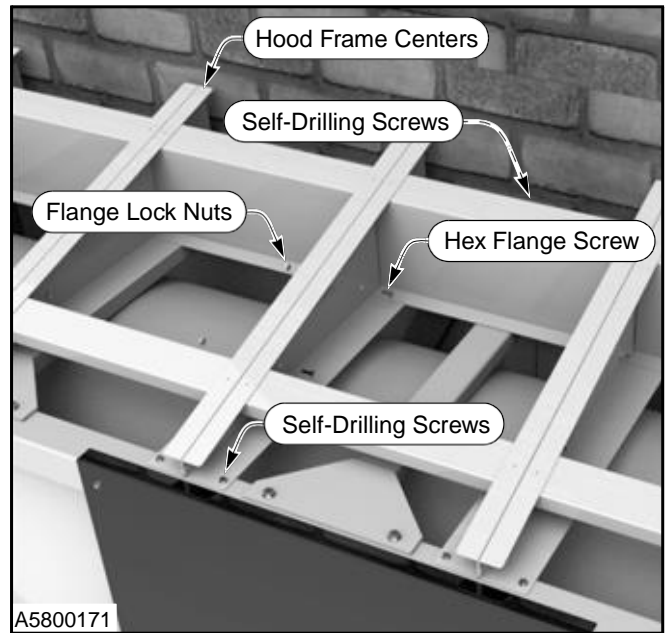

Figure 41
10. Use $\frac{1}{4}$ -14 x $\frac{3}{4}$ self-drilling screws to secure the front of the hood frame centers to the truss and the back to the rear spreader. (See Figure 41)